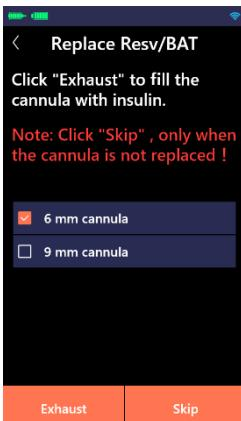

Figure A.2.23
(5) Exhaust. Select the length of the soft cannula you are using, and then click "Exhaust", the insulin will fill the soft cannula (as shown in Figure A.2.23).